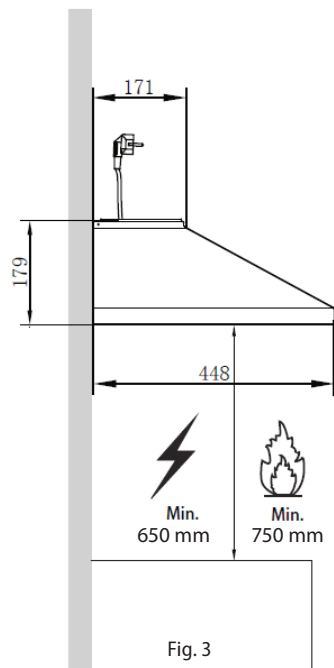

Fig. 3
2. Mark the required installation height (**650 mm** for electric and **750 mm** for gas cooking plates) on the wall behind the cooker or the cooking plate (Fig. 3).